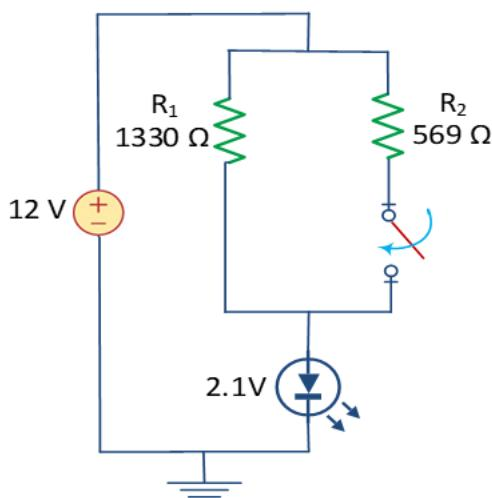

Figure 2.1. Single LED functioning as stop-rear light.
**A.1** Calculate the current in rear position mode ( $i_{rear}$ ) and stop mode ( $i_{stop}$ ) in the circuit shown in Figure 2.1. Check whether these currents conform to the specifications (i.e., they meet the required intensity ratio and maximum value).
**A.3** Using the single LED circuit in Figure 2.1 as a starting point, design the rear lights of a vehicle, conforming to the specifications listed in the lab description. Note that the design implies adding additional LEDs and re-calculating the values of  $R_1$  and  $R_2$  so that the current requirements are met.
- A.2** Knowing that the solar panel has 36 solar cells connected in series (as can be seen in Figure 2.1), calculate the open circuit voltage of the solar panel. Compare your calculated value with the value provided by the manufacturer in the specifications4.